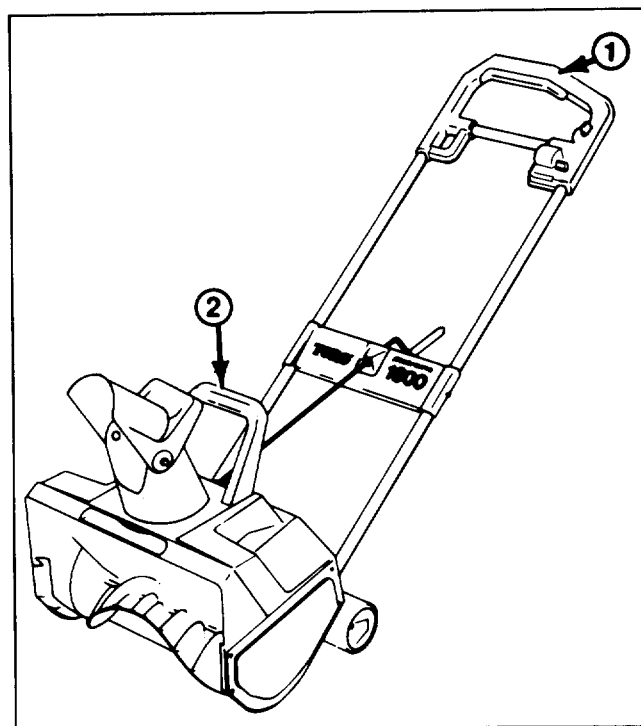

Figure 8
5. Shave down large banks of snow by placing the snowthrower on the bank. Lift the snowthrower by the primary and secondary handles only (Fig. 8). Let the unit's weight shave down the bank in a back and forth motion.
6. When clearing steps or deep drifts, hold the unit by the primary and secondary handles (Fig. 8) and use a swinging or sweeping motion.